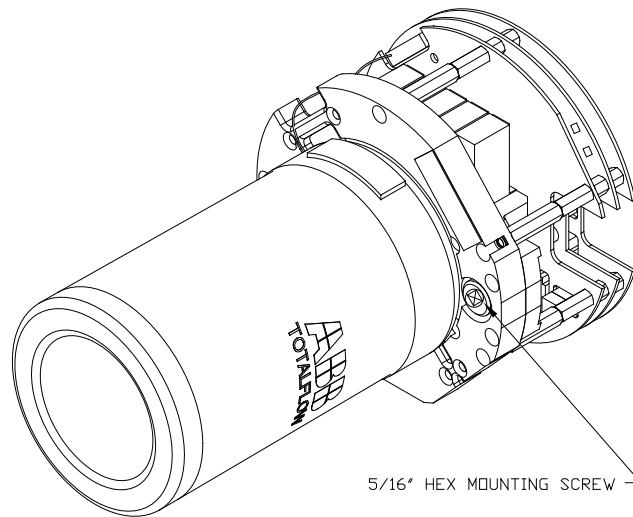

Figure 5-6 Analytical Module
- 10) Using a 5/16" hex wrench, loosen the mounting screw (see Figure 5-6) holding the analytical module in place until the module can be slowly lifted from the enclosure, taking care to not pull or stress wires attached to the rear of the assembly.